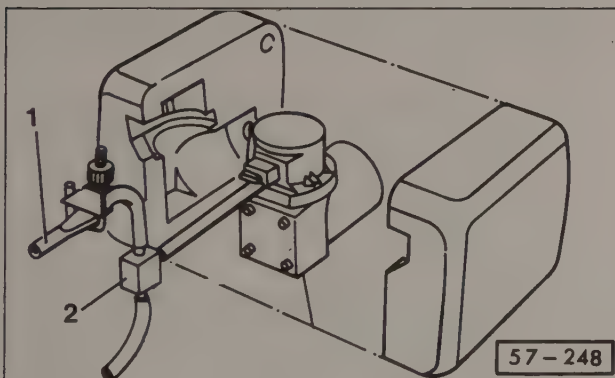

Fig. 5-9. Left rear door activator being tested with hose clamp at 1, near hose distributor 2.
3. Clamp the hose as shown in Fig. 5-9. If the pump runs longer than 5 seconds when activated, the left rear door activator or the hose to it is faulty. If the pump turns off within 5 seconds, remove the clamp and continue testing.